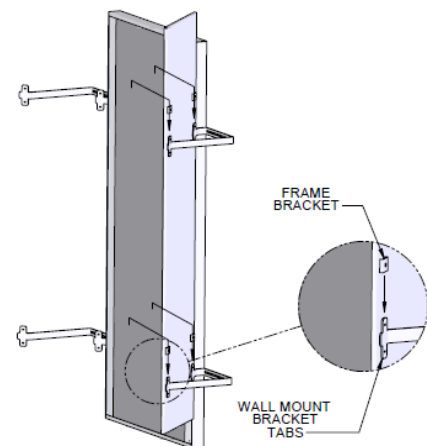

Figure 14
3. With the wall mount brackets securely fastened in place, carefully lift and lower the mirror wing onto the wall mount brackets making sure it is flush with the four wall mount bracket tabs and in line with the four frame brackets. **See Figure 14**